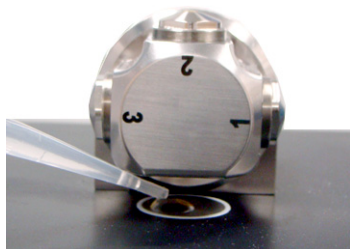

Figure 16. Placing sample on the DialPath accessory sample mounting window
- 2 Place a small amount of sample material on the bottom sample mounting window (see Figure 16). The sample mounting window is the 2 mm diameter yellow material held in place by the surrounding metal disk.